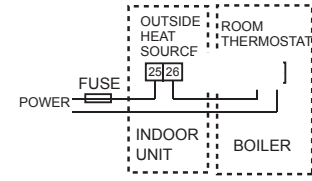

Fig.6-13
2. If the external heat source needs one control signal of the specified voltage (such as 220-240V~ 50Hz), then it need to supply the control terminal 25 and 26 with corresponding power as describing in Fig.6-13.